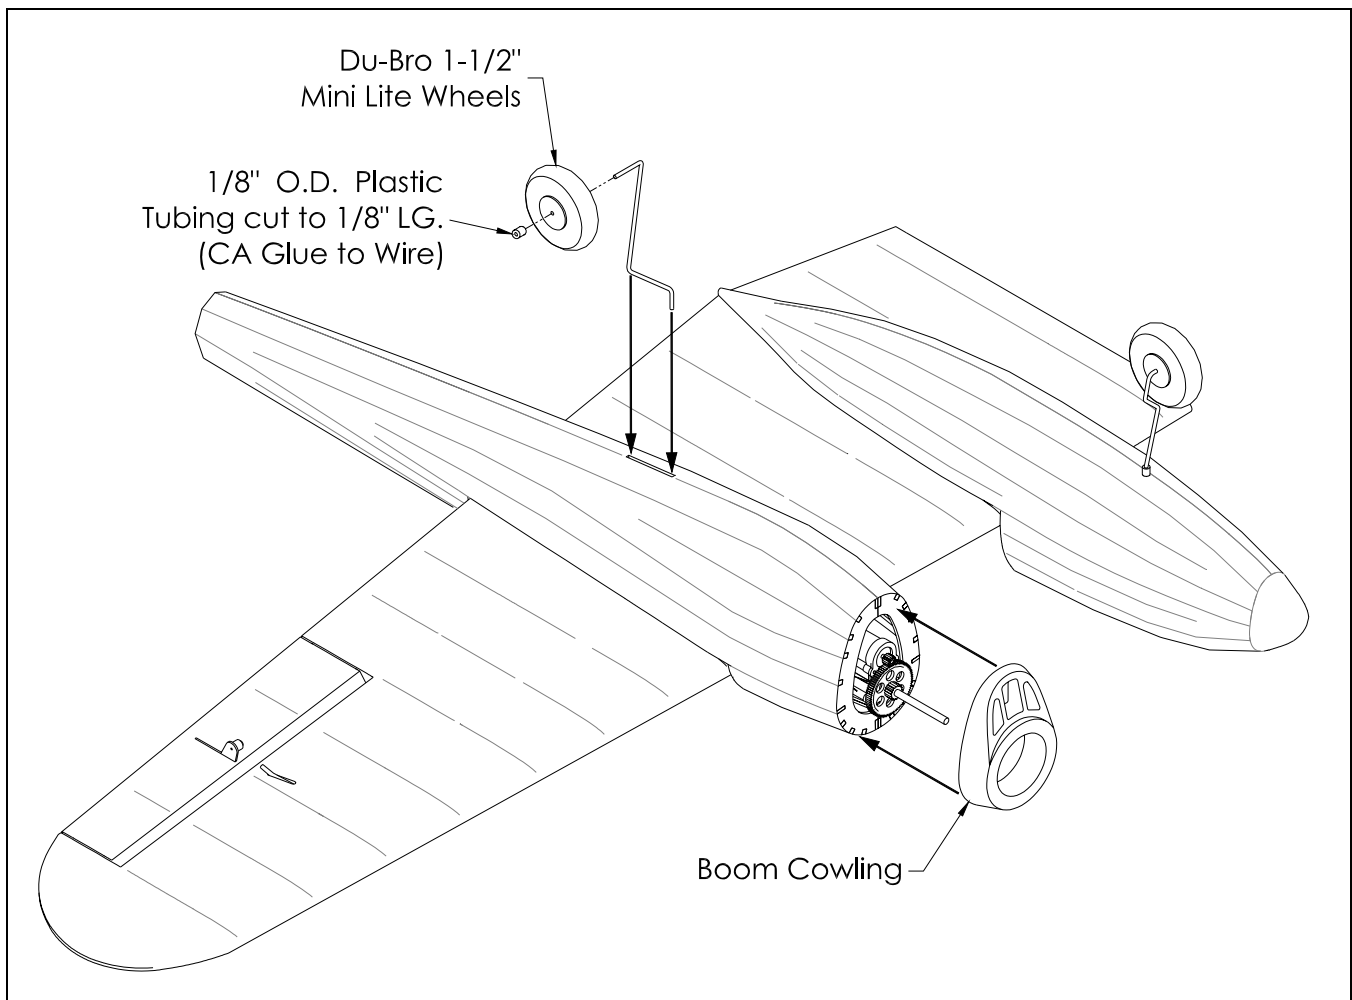

Figure 32
- ❑ Tape the boom cowlings to each boom as illustrated in Figure 32. A small piece of 3/4" transparent tape on each side of the boom cowling is all that is required to attach it to the boom.
- ❑ Glue each the left and right main landing gear to their respective booms as illustrated in Figure 32.
- ❑ Install the two main landing gear wheels. The main landing gear wheels are held on with a short section of 1/8" O.D. Plastic Tubing cut to 1/8" LG. The plastic tubing is attached with thin CA glue to the main landing gear wire, be careful not to get any glue on the wheel. This is illustrated in Figure 32. (Note, the Du-bro wheels may have to be drilled out to fit the main landing gear wire)